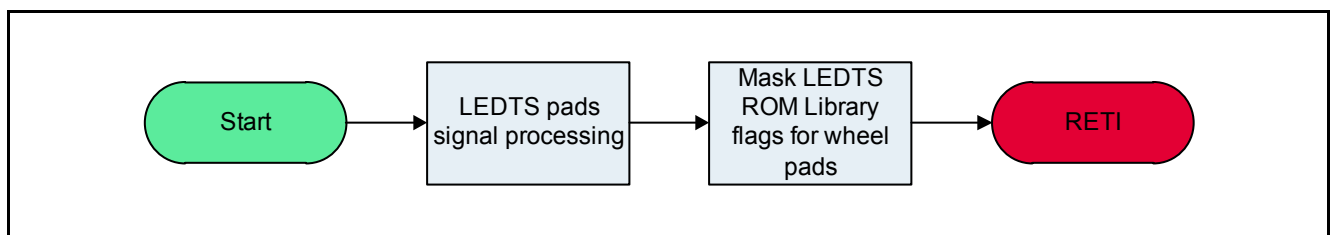

Figure 8 Time Frame Interrupt Service Routine
- Time Frame Interrupt (Figure 8)